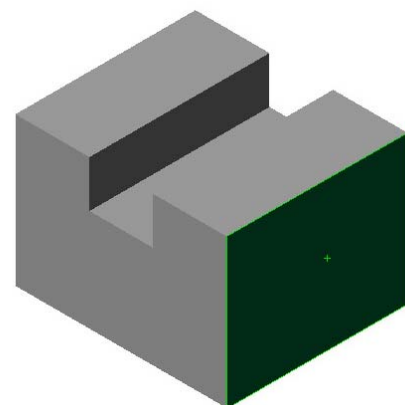

Figure 12 Sketch plane for V-Slot Cut
- 1) Select the right surface of the part as the V-Slot sketch plane as shown in Figure 12.